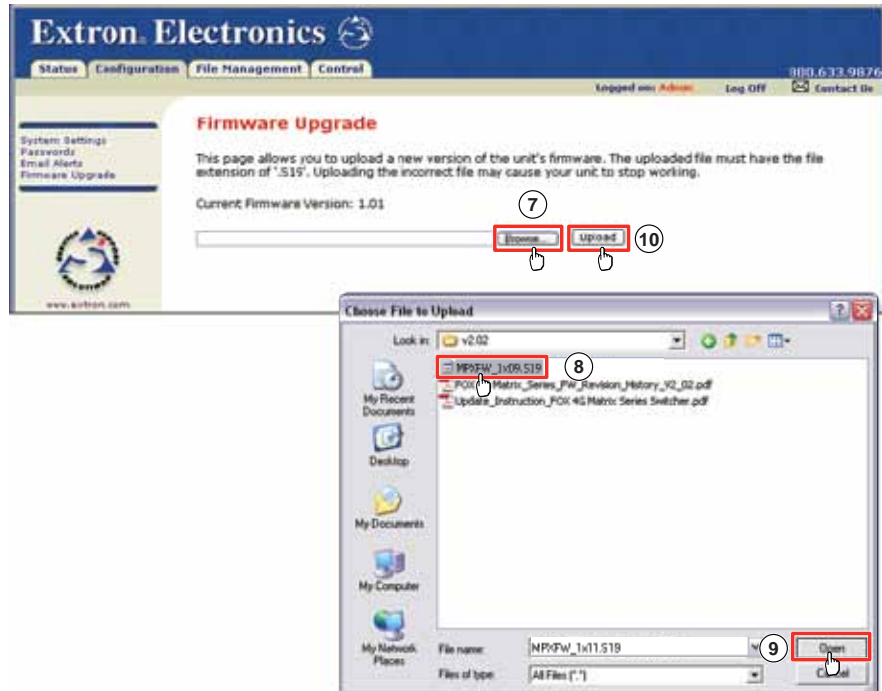

Figure 61. Firmware Upgrade
6. Click the **Firmware Upgrade** link (figure 61).